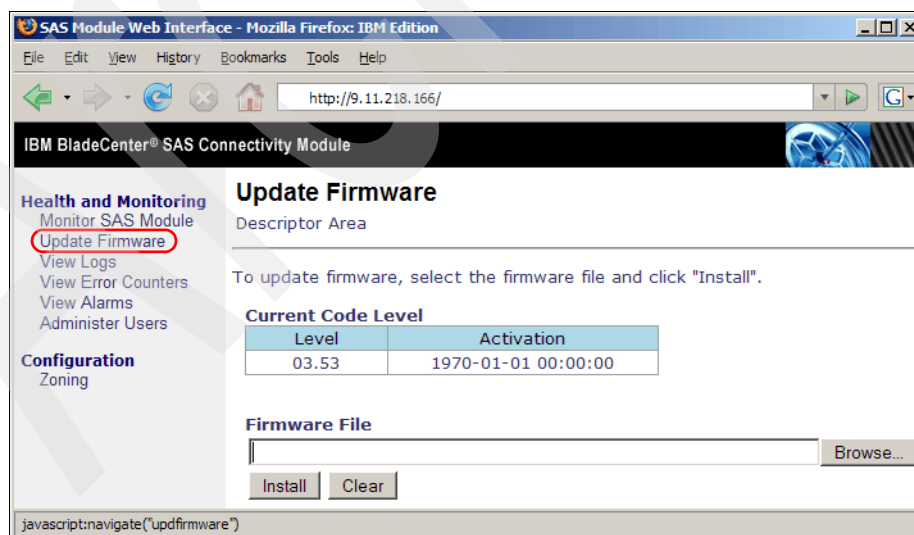

Figure 19-8 SAS Connectivity Module - Update Firmware
2. In the Monitor Module window, click **Update Firmware**. The Update Firmware window opens, as shown in Figure 19-8. The current firmware version is also displayed.